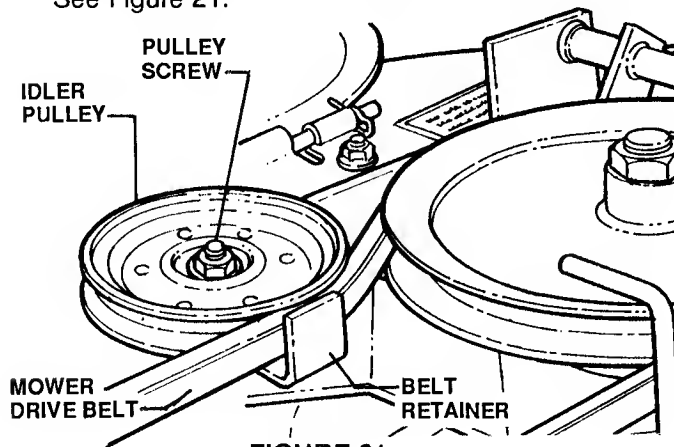

FIGURE 21
2. Loosen pulley screw on IDLER PULLEY until BELT RETAINER can be moved away from belt. See Figure 21.